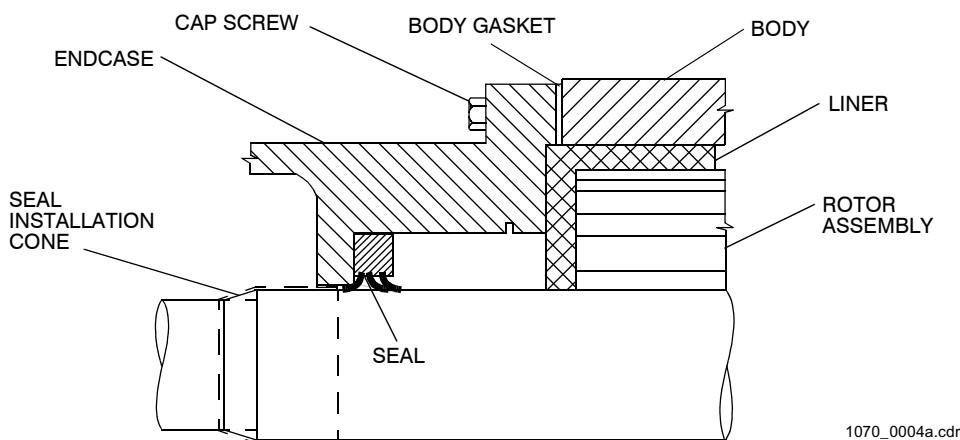

Figure 2-4. Single Lip Seal Installation
2. Install four lip seals (19, Figure 4-1) in seal bores of two endcases (15). Press seals all the way to the bottom of the bore as shown in Figure 2-4. We recommend using an arbor press to seat the seals. Installation tools are available from Edwards.
3. Pre-lubricate four grease seals (14) with approved grease (7, Table 2-1).
Lip seals have two lips on one side and one lip on the other side. The side with two lips must face toward pump body as shown in Figure 2-4.